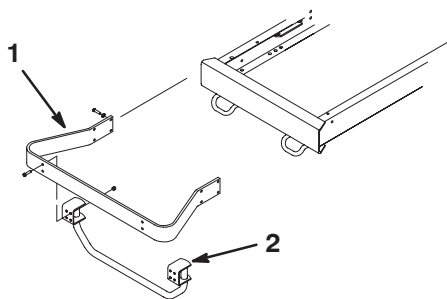

Figure 20
1. Attach the bumper bracket to the frame using eight 3/8-16 x 1-1/4" lg. bolts, washers, and nuts. (Fig. 20).
2. Secure the guard assembly to the bumper bracket with four carriage bolts (Fig. 20).